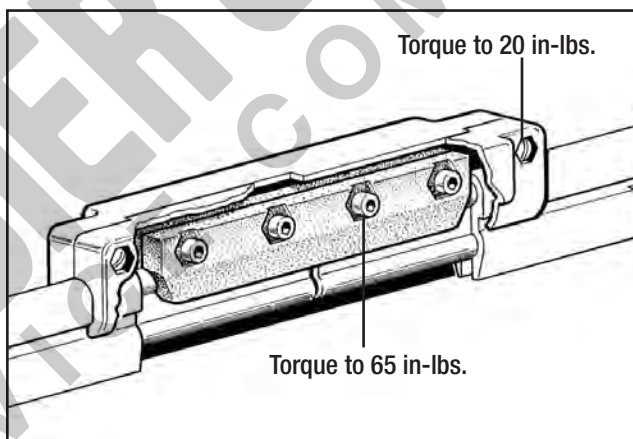

Figure 23-2 Joining Bolted Conductors
B. For joining bolted conductor bars, see **Figure 23-2**.